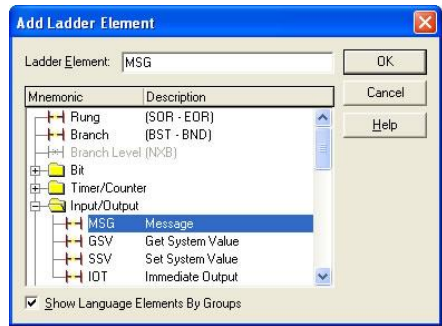

Figure 50: Adding a MSG Instruction
- d) Select the "MSG" instruction in the Input/Output folder. Refer to Figure 50.